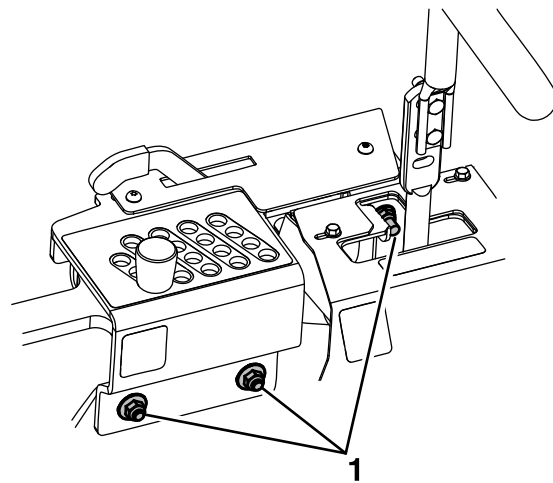

Figure 38
14. If the four deck adjusters do not have enough adjustment to achieve accurate cut height with the desired rake, the height of cut box can be utilized. Loosen the bolts, shown in Figure 38, slide the box fore or aft, and retighten the bolts.